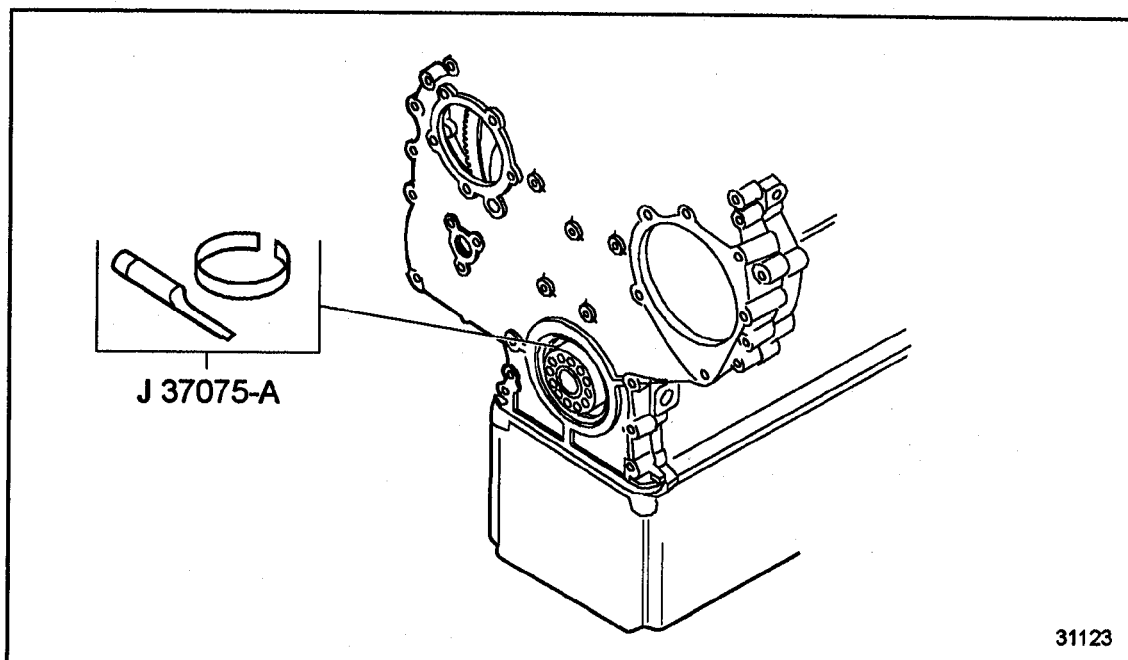

Figure 1-129 Oil Seal Sleeve Removal Tool for the Federal Mogul Seal
7. Remove oil sleeve using crank oil sleeve remover, J 37075-A. See Figure 1-129.